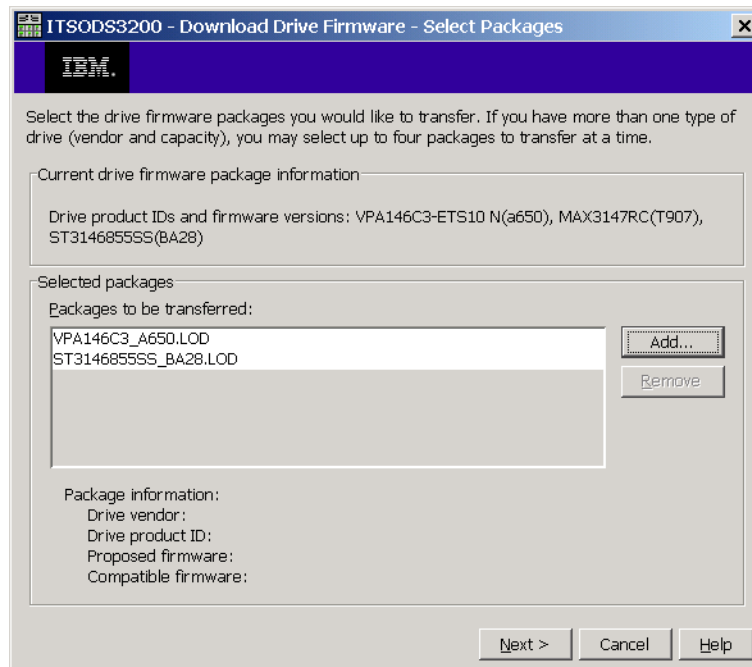

Figure 14-29 Drive packages added
4. Repeat these steps for every drive type you want to update. You can update up to four drive types at a time. Click **Next** in the Download Firmware window (Figure 14-29).